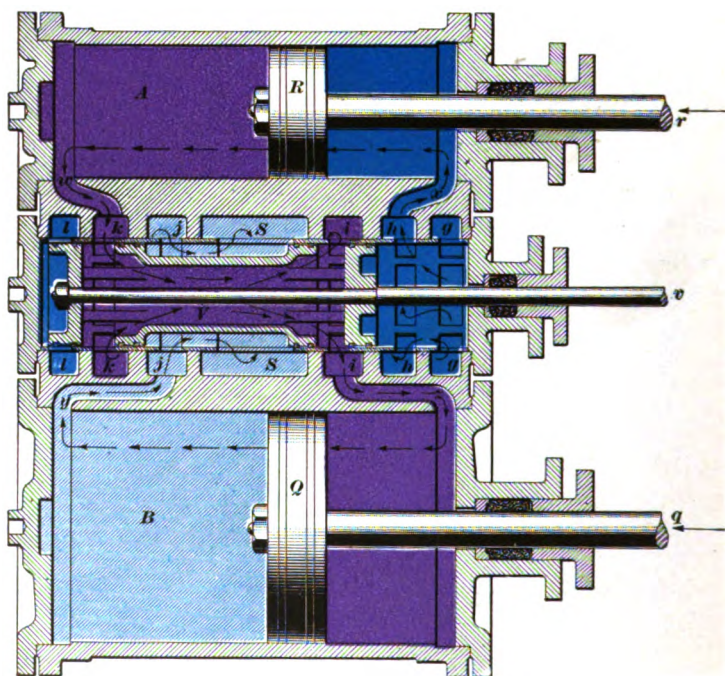
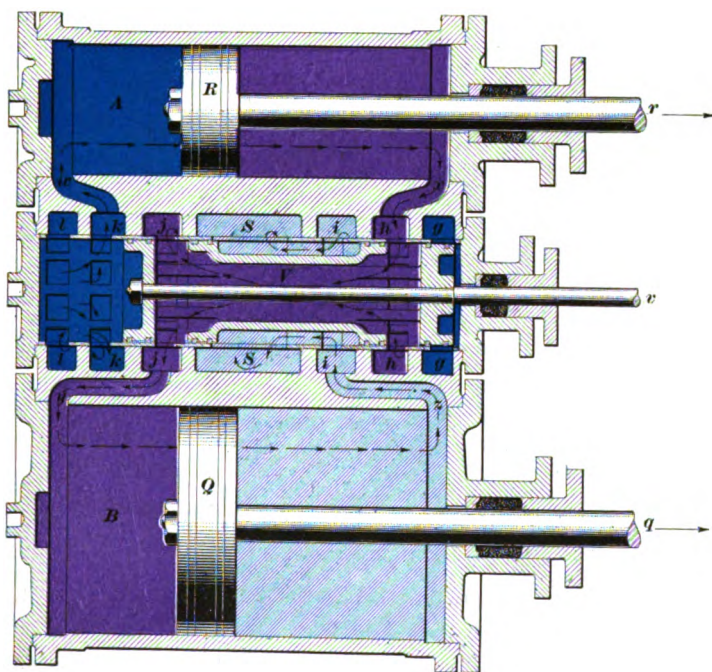
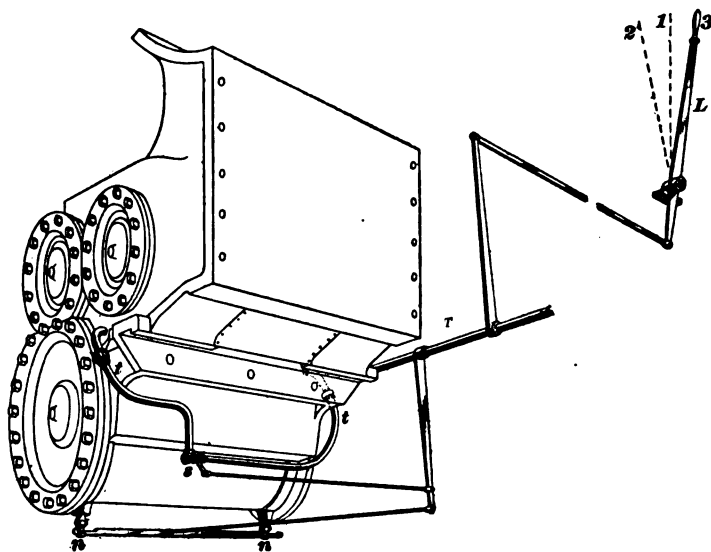
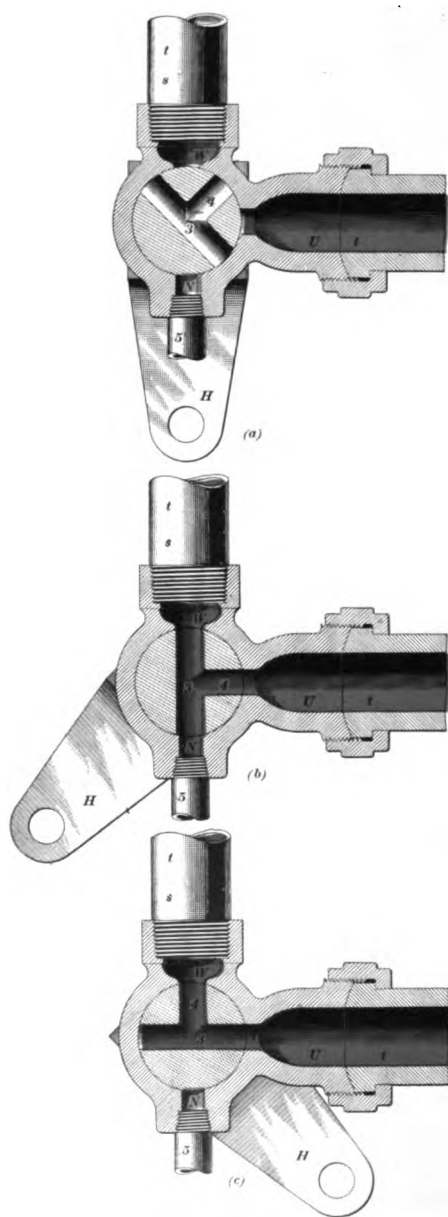

FIG. 10.
FIG. 11.
FIG. 12.
FIG. 13.
cast in the saddle that extend completely around the valve bushing. The steam pipe *E* connects with a steamway (in the cylinder saddle) that divides into two branches; the end of one branch forms chamber *g*, while the end of the other forms chamber *l*, both of which surround the valve bush. Steam pipe *D* supplies steam to the right-hand cylinders. Chamber *k* is the steam-chest end of the steam passage *w* that leads to the front end of the high-pressure cylinder *A*, while chamber *h* is the end of the other steam passage *x* that leads to the back end of the cylinder. The chambers *j* and *i* are the steam-chest ends of the steam passages *y* and *z* that lead to the front and back ends, respectively, of the low-pressure cylinder *B*. Chamber *S* forms the steam-chest end of the exhaust steamway (in the cylinder saddle) that leads to, and connects with, the exhaust pipes *P*. It will thus be seen that steam from the boiler enters the steam chest through the end cavities *g* and *l*, so that, when the throttle is open, the two ends of the steam chest are filled with steam. Also, it will be seen that the steam must pass from the steam chest through chamber *k* or chamber *h* in order to get into the front or back ends of the high-pressure cylinder, respectively. Also, for steam to enter the front or back ends of the low-pressure cylinder, it must pass through chamber *j* or chamber *i*, respectively. Steam, in exhausting to the atmosphere from the lower pressure cylinder, must pass out through the cavity *S*. Two relief valves *m*, *m* are screwed into holes that lead to the passages *j* and *i*, and another valve is screwed into a hole *n* leading to the steamway in the cylinder saddle. The arrangement of the cylinders, steamways, and cavities in relation to the steam valve will be more clearly seen by referring to Fig. 10.
**25. Forward Stroke.**—The views of the steam chest and cylinders in Figs. 10 and 11 are not true sectional views, but are conventional views made up for the purpose of showing the relation of the high- and low-pressure cylinders to the steam valve, as well as the relation of the chambers *h*, *i*, *j*, etc. to the
Suppose the engine to have been working, so that both cylinders are working steam; then the operation for the forward stroke, Fig. 10, will be as follows: With the valve in the position shown, steam from the steam chest enters the back end of the high-pressure cylinder  $A$  through chamber  $h$  and the steamway  $x$ , as indicated by the arrows, forcing the piston towards the front end of the cylinder. The steam in the front end of the high-pressure cylinder is exhausting through the steamway  $w$ , chamber  $k$ , cavity of valve  $V$ , chamber  $i$ , and steamway  $z$ , into the back end of the low-pressure cylinder  $B$ , as indicated by the arrows, thus forcing the low-pressure piston towards the front end of its cylinder also. The exhaust steam in the front end of the low-pressure cylinder is exhausting to the atmosphere through the passage  $y$ , chamber  $j$ , cavity of valve  $V$ , and the exhaust port  $S$ , as indicated.
**26. Backward Stroke.**—In the backward stroke of the pistons, Fig. 11, the valve is admitting steam to the front end of the high-pressure cylinder, as shown, while the steam in the back end of the high-pressure cylinder is exhausting into the forward end of the low-pressure cylinder; hence, both pistons are being forced towards the back end of their cylinders. The exhaust steam in the back end of the low-pressure cylinder is passing through the steamway  $z$ , chamber  $i$ , and cavity of valve, into the exhaust passage  $S$ . By comparing Figs. 10 and 11, it will be seen that the high-pressure cylinder receives the steam directly from the boiler through the steam chest, while the low-pressure cylinder receives its supply of steam directly from the exhaust side of the high-pressure cylinder. In other words, the high-pressure cylinder receives steam from the boiler for a certain part of the stroke, allows it to expand practically for the remainder of the stroke, and then discharges it into the low-pressure cylinder, where it is still further expanded, after which it is discharged through the exhaust pipes in the usual manner. It is obvious that if this compound locomotive is started from
**27. General Arrangement of Starting-Valve Gear.** The arrangement of the **starting-valve gear** is clearly shown in Fig. 12. The valve *s* is the starting valve, and it is connected by the pipe *t* to the two steamways *h* and *k*, Fig. 11,
**28. Construction of Starting Valve.**—Sectional views of the **starting valve** are shown in Fig. 13 (*a*), (*b*), and (*c*). One end of the pipe *t* connects with the top opening *W*, the other end connects with the side opening *U*, while the small opening *N* on the bottom leads to the atmosphere. When the handle *H* is pointing directly down, as in view (*a*), the valve is closed, since the plug of the valve blanks all the openings. When the handle is moved to the forward position, view (*b*), the passage 3 through the plug of the valve connects the port opening *N* with port *W*, while the passage 4 connects with port *U*; hence, there is a direct opening to the atmosphere through the pipe 5, while at the same time there is direct passage between the ports *W* and *U* through the passages 3 and 4. Thus, when in this position, the valve not only acts as a *by-pass* valve, but also as a cylinder cock for the high-pressure cylinder, since steam can pass from one pipe *t* to the other through the passages 3 and 4 in the plug of the valve, or from either pipe to the atmosphere through port *N* and pipe 5.
35. A reference to Figs. 13 and 14 will show that, in this position of the starting valve, the pipe *t* connects the two ends of the high-pressure cylinder together; also, since the chamber *i* leads to the back end of the low-pressure cylinder, it will be plain that, with the steam valve *V* (i. e., the piston valve) in the position shown (see also Fig. 10), the front end of the high-pressure cylinder is connected with the back end of the low-pressure cylinder through the valve *V*; while, with the valve *V* in its back position (see also Fig. 11), the back end of the high-pressure cylinder connects with the front end of the low-pressure cylinder through chamber *j*. Thus, it will be seen that, when the engine is drifting with the starting valve open, the air that is compressed on one side of the high-pressure piston is free to flow to the other side of both the high-pressure and the low-pressure pistons, thus preventing, to a considerable extent, the formation of a vacuum there. Also, when the style of cylinder cock indicated is used (with small check valve), and the starting valve is in its backward position—so as not to open the cocks—any vacuum in either end of the low-pressure cylinder will cause the check-valve of the cylinder cock on that end to open and admit air, while the pressure in the opposite end of the cylinder, due to compression, will hold the check-valve in the other cylinder cock seated. It is better that the cylinder cocks should not be opened when drifting, as otherwise the air discharging from the low-pressure cylinder carries oil along with it, and, consequently, the cylinders are more liable to become dry and cut. The proper position for the reverse lever when drifting is as near the corner as practicable.
**40. Other Breakdowns.**—Broken packing rings, in either the steam valve or cylinder pistons, are very difficult to detect, and generally can only be noticed in their effect on the engines; that is, when the rings are faulty, the engine steams poorly and will not make time on the road. The low-pressure piston packing-rings require renewal more frequently than those of the high-pressure piston. Sometimes the cylinder-cock shaft *T*, Fig. 12, becomes strained, so that, when the cylinder-cock lever is moved, it will open the starting valve on one side of the engine, but will not open the one on the other side. This causes the exhaust to sound alternately light and heavy, and the trouble is very apt to be attributed to the valve gear; hence, before altering the valve gear, examine the starting valves, to
connections are bent by striking obstructions along the road; this alters their length so that with the lever in the cab in its proper positions the altered length of the connections will throw the starting valve out of its proper position. If the connections are so bent that the starting valve is opened when the cylinder-cock lever is in compound position (position 1, Fig. 12), it will allow live steam to go to the low-pressure cylinder on that side, and a heavy exhaust will occur from that side. If by placing the cylinder-cock lever in live-steam position (position 3, Fig. 12) the exhausts are made equal, the trouble will probably be found in the connections. But such a condition might be had that when the lever is changed one starting valve would be closed and the others opened, which would still give the irregular exhaust but the time of occurrence would be reversed. An examination, however, will quickly show if this is the trouble, as with the cylinder-cock lever in compound position the starting-valve lever should be at right angles with the rail.
If the starting valve is all right, but it is thought that the engine is not doing its work as well as usual, look for the trouble on the side from which the light exhaust is coming, which, in this case, is the right side. To determine this, place the engine on the quarter on the right side with the reverse lever in the corner and the starting valve in position 3, Fig. 12 (live-steam position), open the throttle and raise the cylinder-cock valves by lifting the slide rod, and if steam escapes from both cylinder cocks in considerable quantities it will indicate that the low-pressure cylinder packing is leaking on that side. This test is practically the same as the test for a cylinder packing blow in a simple engine.
If the trouble is not found in the right side, the heavy exhaust is the abnormal one, and the trouble should be looked for on the left side. Place that side of the engine on the quarter, with the starting valve in closed or compound position, place the reverse lever in the corner, and open the throttle. An indication of pressures in the ends of the high-pressure cylinder can be had by slacking off on the union nuts at each end of the live steam pipe *t*, Fig. 12. If steam blows from each it indicates either the valve or the high-pressure piston packing blowing. If, on bringing the reverse lever to the center notch, the blow ceases, the trouble will be found in the high-pressure piston packing; but if the blow continues, it will be the valve packing, though this does not prove that the piston packing is not blowing also. To determine if it is the piston packing, the valve packing must be made tight, and then if the engine still blows it indicates a blow in the piston packing. If the blow is past either pair of valve rings *1* and *2* or *3* and *4*, a heavy exhaust will be had from each end of the cylinder, as steam leaking into either end of the inner cavity of the valve will find its way into whatever port the other end of the cavity may be in connection with. When indicator plugs are placed in the cylinders they may be removed for the indication of pressures in the test. Most engines that have the starting valve independent of the cylinder cocks have cylinder cocks leading from the high-pressure cylinders, and these, when opened, will be the most convenient indication of the pressure in the opposite ends of the high-pressure cylinder. Sometimes the steam-chest bushing does not make a tight fit with the walls of the chest and allows steam to leak from one part to another, giving a blow that can only be located after all other possible places for a blow have been examined. By tapping with a hammer on the inside of the bushing, the defective joint can sometimes be determined by the difference in sound.